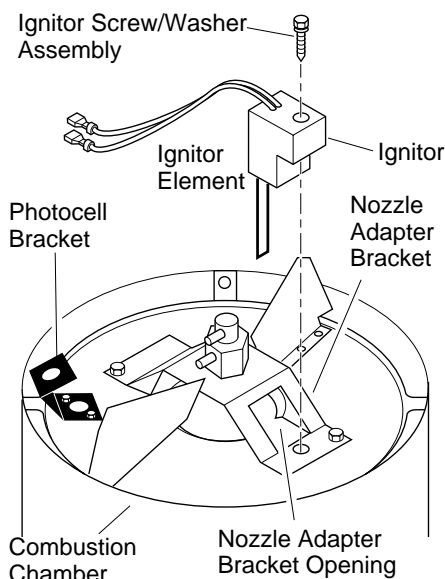

Figure 12 - Ignitor Replacement
6. Remove combustion chamber. Stand combustion chamber on end with nozzle adapter bracket on top (see Figure 12).
9. Carefully guide ignitor into opening in nozzle adapter bracket. Do not strike ignitor element. Attach ignitor to nozzle adapter bracket with screw using a 1/4" nut driver (see Figure 12). Torque 8 to 15 in. lbs. Do not over torque.